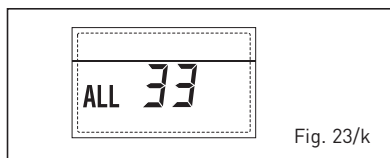

Fig. 23/k
– **RS-485 BOARD COMMUNICATION ERROR IN CASCADE MODE “ALL 34” (fig. 23/j)**